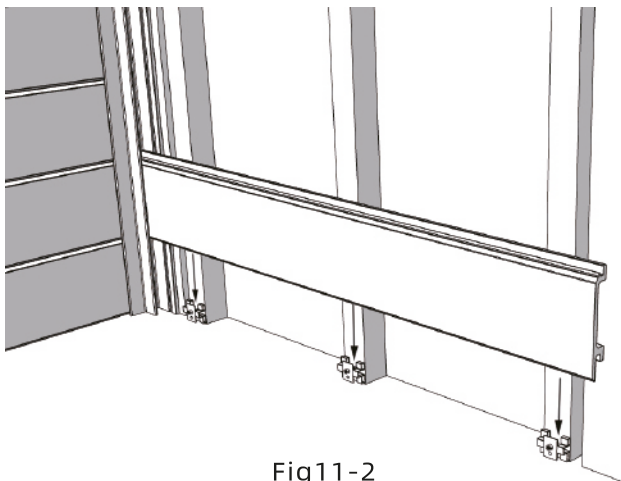
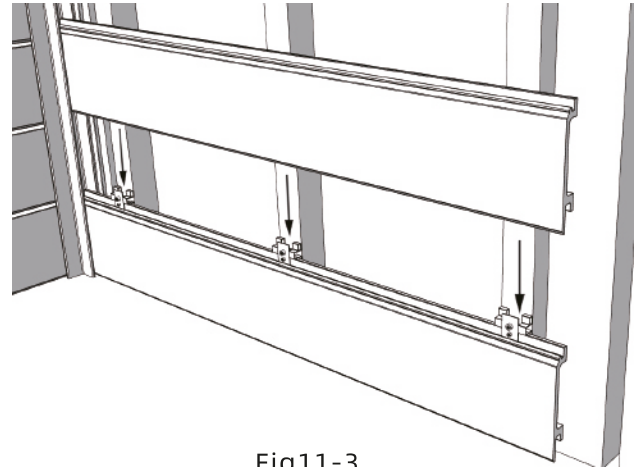

Fig11-2
Fig11-3
2. Snap the wall plate into the HLYC-016F recess and slide it downward to snap onto the wall plate fitting. As shown in Figure 11-2 and Figure 11-3: